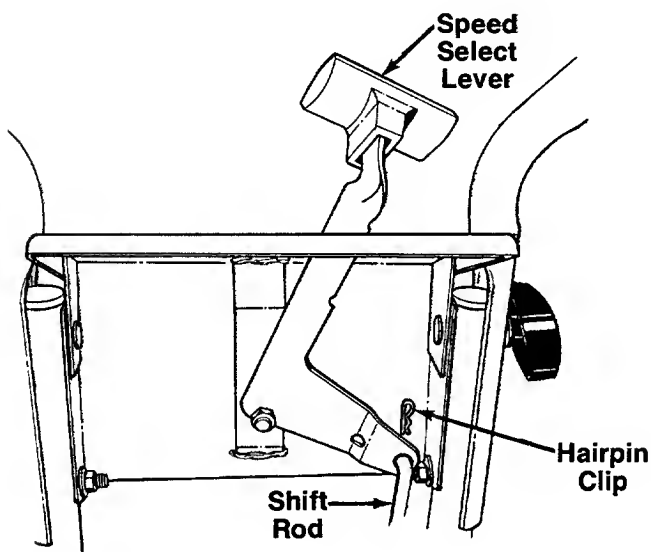

FIGURE 10.
2. Place the speed select lever in sixth speed (6) position. See figure 10. Push the shift rod down as far as it will go, to put the gears into full forward position. Thread the shift rod in or out of the ferrule as necessary until the end of the rod lines up with the hole in the speed select lever. ←
3. Insert end of rod into hole in speed select lever. Secure with hairpin clip. See figure 10.